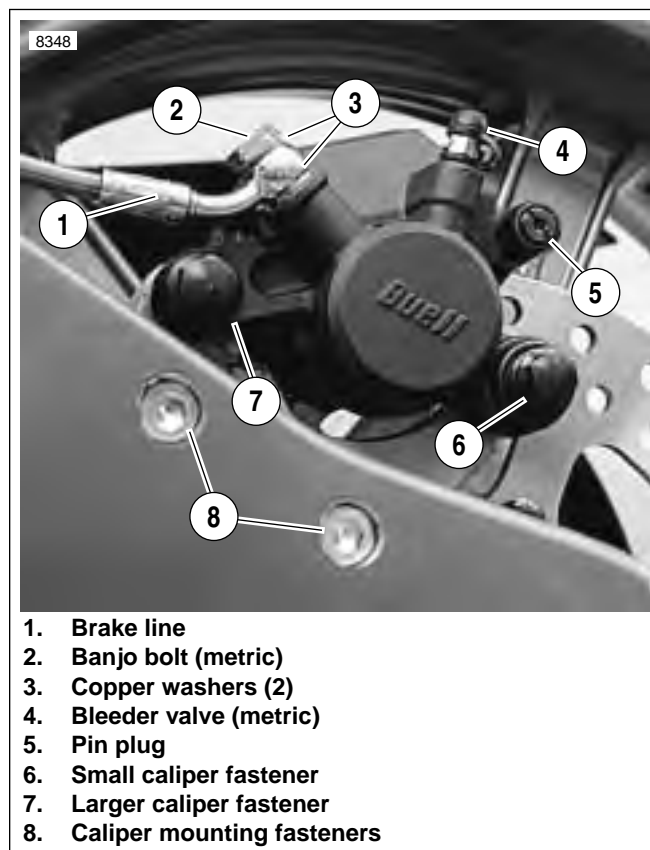

Figure 2-58. Rear Brake Caliper
4. See Figure 2-58. Connect brake line switch connector underneath seat. See D.1 HOSE AND WIRE ROUTING for brake line routing.
3. See Figure 2-58. Remove caliper mounting fasteners (6 and 7).
1. See Figure 2-58. Remove pin plug (5) and pad hanger (metric) to free brake pads.
2. See Figure 2-58. Install caliper assembly on caliper mount. Brake pad surfaces must face rear brake rotor.
- a. Install large caliper screw (7) (metric) tightening to 18-21 ft-lbs (24-28 Nm).
- b. Install small caliper screw (6) (metric) tightening to 14-18 ft-lbs (19-24 Nm).
- c. Install caliper carrier onto swingarm tightening caliper carrier fasteners (8) to 24-26 ft-lbs (33-35 Nm).
3. See Figure 2-58. Connect brake line (1) to caliper using two **new** copper washers (3) and banjo bolt (2) (metric). Tighten to 16-20 ft-lbs (22-27).